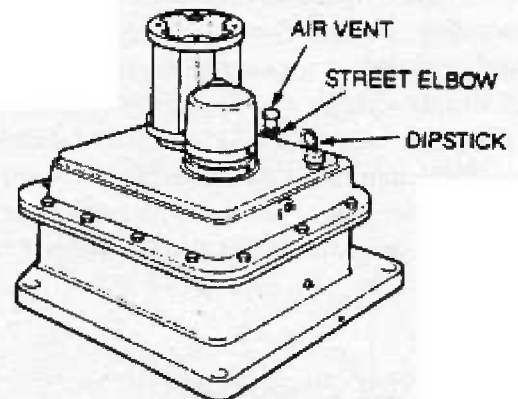

Figure 8 — HCD reducer preparation
- a. Refer to Fig. 8. Remove the pipe plug from the input-housing half and replace it with the street-elbow and air-vent assembly as shown. Seal the threads with pipe compound or teflon tape. Make sure the vent is in the vertical position.
- b. Refer to Fig. 8. Remove the pipe plug from the dipstick opening and replace it with the dipstick bushing.